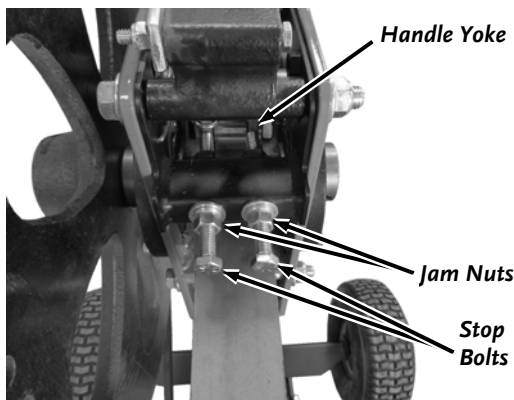

Figure 45
4. Loosen the Stop Bolt Jam Nuts (**Figure 45**).